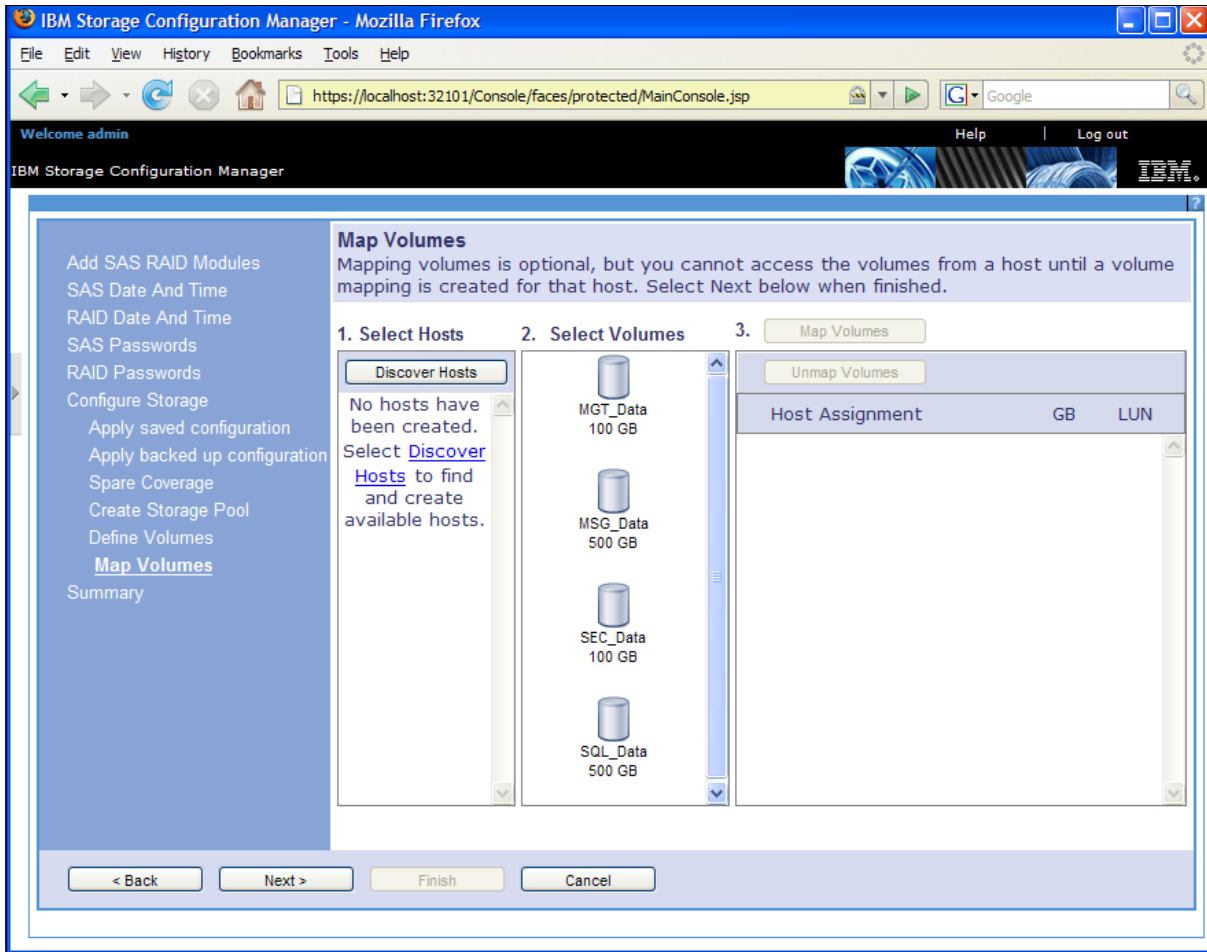

Figure 2-41 Map Volumes panel
13. The “Map Volumes” panel (Figure 2-41) allows you to discover blades and then to map the necessary volumes to them. If the blade servers are not powered on, they will not be discovered. It is possible to map a volume to a blade server after the wizard has completed.